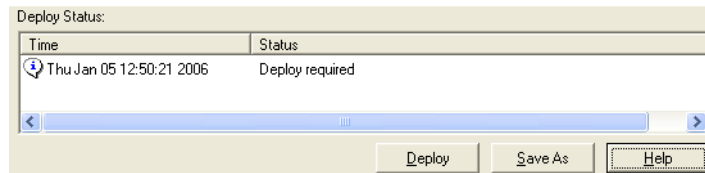

Figure 28. Deploy Aspect
32. Select the Deploy aspect, see also Figure 28.